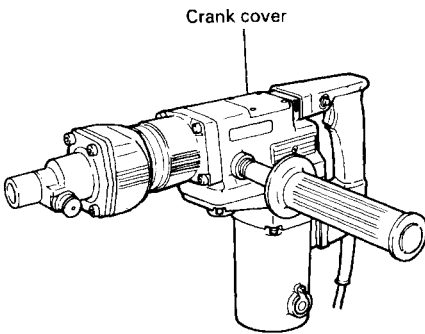

Fig. 17
- (1) Remove the crank cover and wipe off the grease inside. (Fig. 17)
- (2) Supply 0.7 oz of HITACHI Electric Hammer Grease A (standard accessory, contained in tube) to the crank case. As the tube contains 1 oz of grease, supply 2/3 of the contained grease.
- (3) After replacing the grease, install the crank case securely.